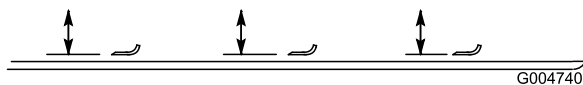

Figure 84
2. Rotate the blade until the ends face forward and backward and measure from the inside of the mower deck to the cutting edge at the front of the blade (Figure 84).